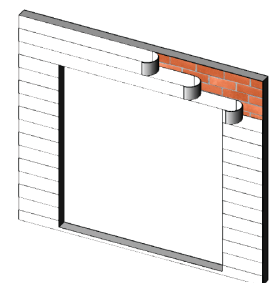

Figure 24:
4. Weather resistant building paper should be applied in a weatherboard fashion to complete the installation (Figure 24).